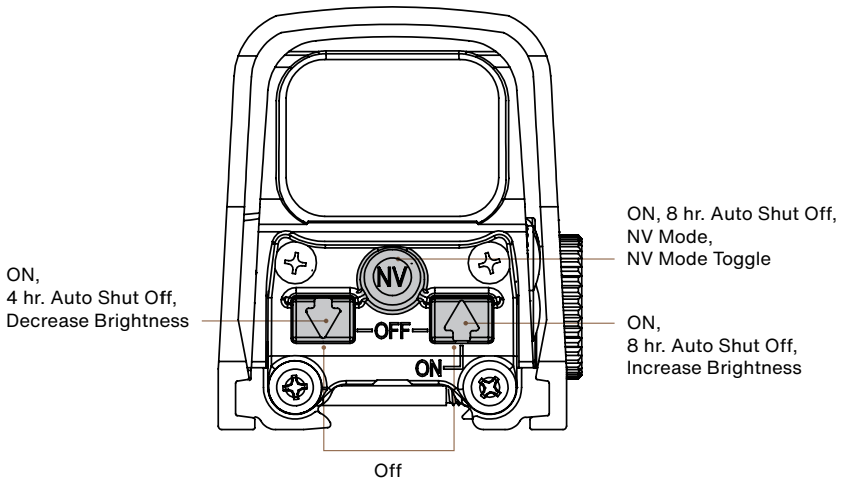

FIGURE 3
All electronic controls are via push buttons located at the left side of the unit housing (**FIGURE 3**).
Pressing the NV Button (**FIGURE 3**) will turn the sight ON in Night Vision Mode. The sight will turn on at Level 4 and automatically shut off 8 hours after the last pushbutton control is used. There are ten (10) NV brightness settings provided to allow the user to adjust the reticle brightness to their preference.